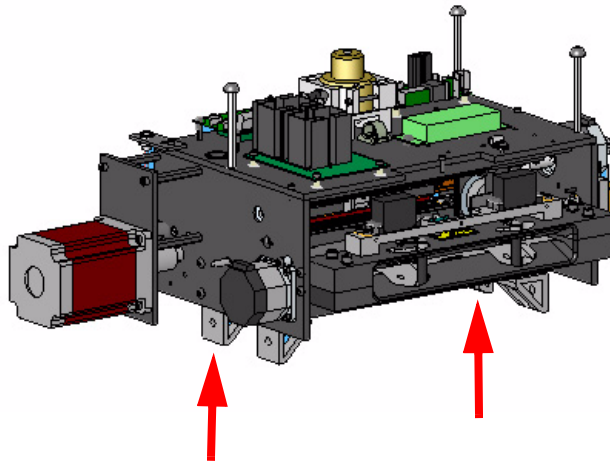

Figure 5. Remove the two M8 screws that secure the Heater Welder Assembly to the supporting brackets.
7. Remove the two M8 screws from under the Heater Welder Assembly. One screw per bracket. See figure 5.
12. Replace the two M8 screws that fasten the Heater Welder Assembly to the supporting brackets underneath. Place one hand up through the slack loop box to help hold the screw and driver in place. Figure 5.